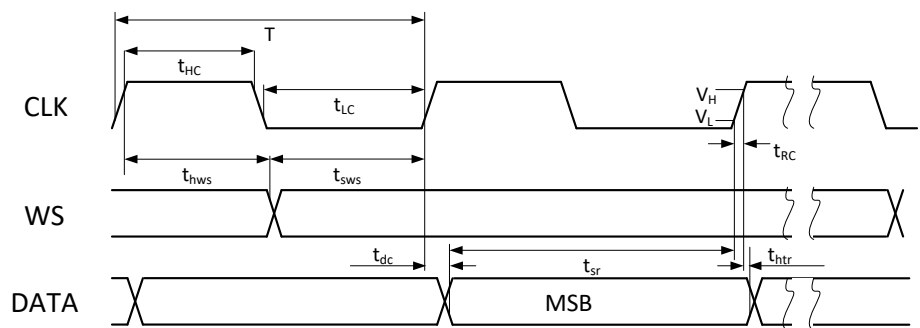

Figure 2: Timing Diagram
- BCLK period must be in the range shown in Figure 2 and the table below it
- The Hold Time (see Figure 2) must be greater than the Hold Time of the Receiver